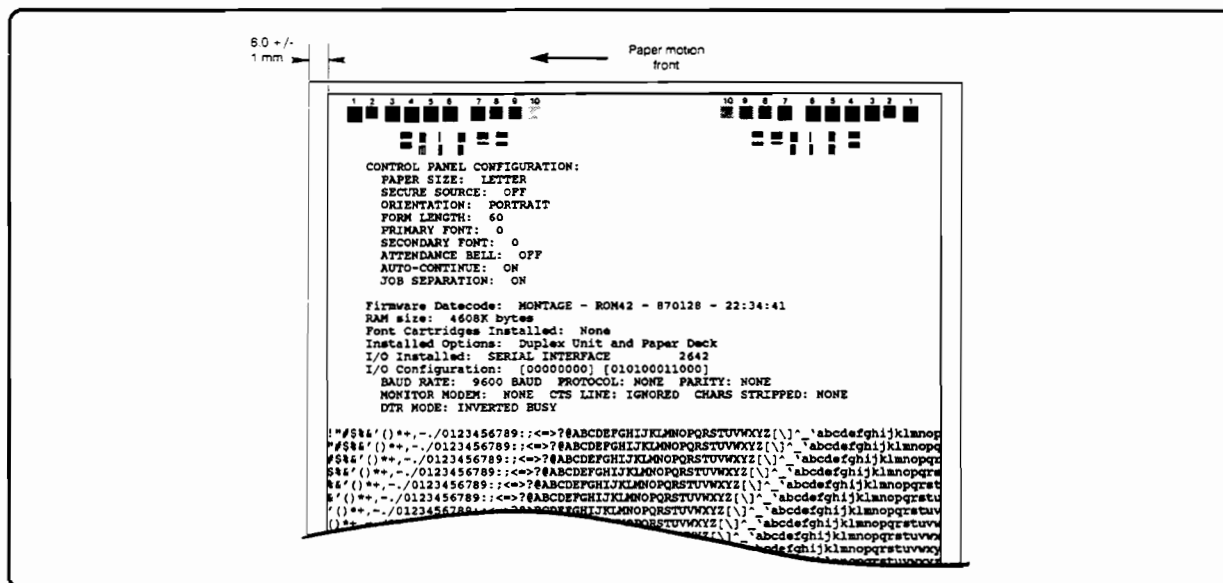

Figure 6-35. Registration Roller Timing
2. Adjust VR101 for $6.0 \pm 1\text{mm}$ from the leading edge of the paper to the border. See Figure 6-35.